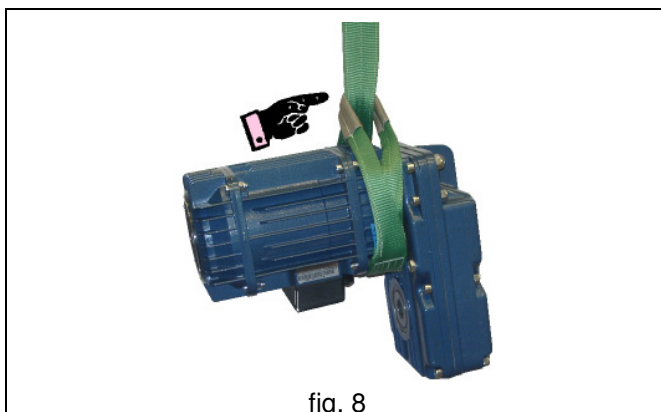

fig. 8
2. **“DGP” offset geared motors**, which are always provided separately from wheel groups or running beams, when their weight exceeds 30 kg and cannot be handled manually must be lifted using suitable straps fitted like a “noose” in the gearmotor connection area (fig. 8).